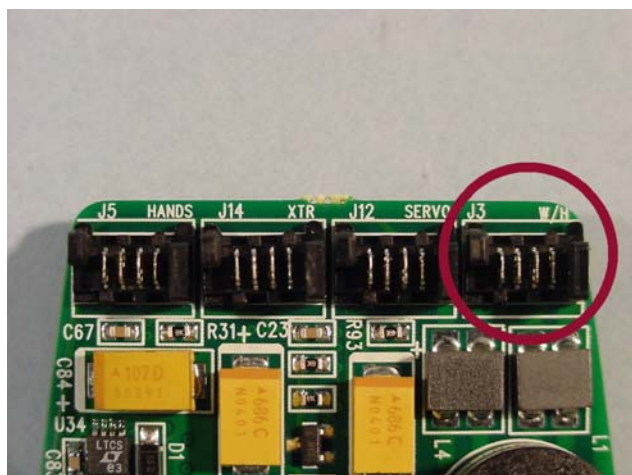

Fig. 1. The Wrist/Hand Receptacle – J3
The Boston Digital Arm uses a number of proportional or adjustable inputs to directly control the motor in the terminal device (TD). The Boston Digital Arm contains the most advanced signal processors so that the resulting Pulse Width Modulation (PWM) directly controls motor speed in the TD in a way that feels natural to the user. The Otto Bock **8E37** Hand and the **8E32** Greifer as well as the Motion Control ETD Electric Terminal Device are two-wire, motor-only (no internal circuitry) TD's that work well with the Boston Digital Arm to give excellent proportional control especially when slow speed is required for precision. On the distal end of the Boston Arm circuit, use the "J3-W/H" output connector for these TDs. Two-wire TD's are connected to the "battery posts" when passing through the Bock 9E169 Coaxial Plug or the Bock 10S17 Wrist Rotator. See Fig 1. for the appropriate output connector.